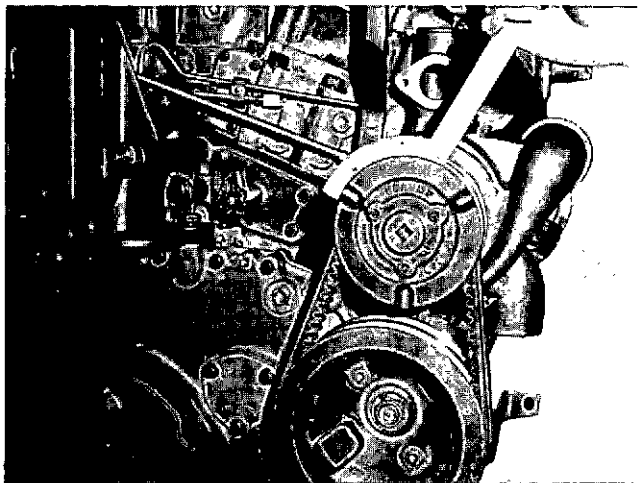

Fig. 14-1-58, V41457. Adjusting belt tension
4. Adjust belt tension by turning pulley sheaves. Fig. 14-1-58. See "Belt Adjustment" at end of this section.